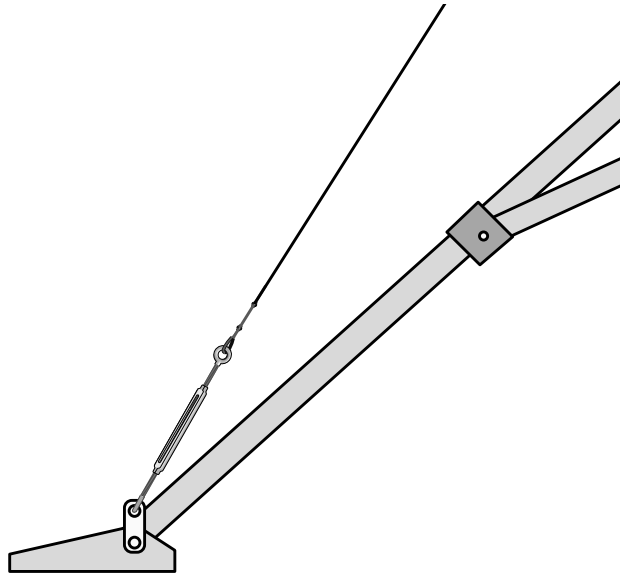

FIGURE 2-2. Extending the Tripod Legs
attaches to the foot (Figure 2-2), measure up 23" on the CM10, or 26" on the CM6, and mark each leg with a felt tip pen.
4. Each leg has a slide collar with a single bolt for loosening or tightening the collar (Figure 2-2). Loosen the bolt on each collar with a 1/2" wrench.